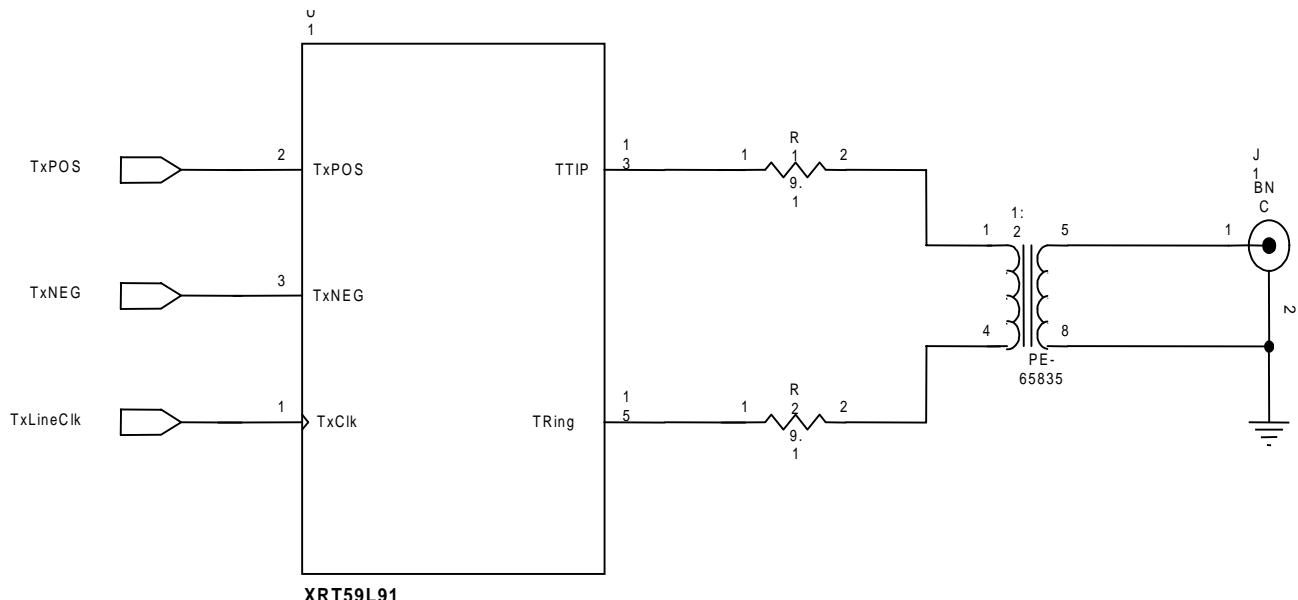

Figure 5. Illustration of how to interface the Transmit Section of the XRT59L91 device to the Line (for “75W” Applications)
In both applications (e.g., 75W or 120W), the user is advised to interface the Transmitter to the Line, in the manner as depicted in Figures 5 and 6, respectively.
1. Figures 5 and 6 indicate that for both “75W and “120W” applications, the user should connect a 9.1W resistor, in series, between the TTIP/TRING outputs and the transformers.
2. Figure 5 and 6 indicate that the user should a “1:2 STEP-UP” Transformer.